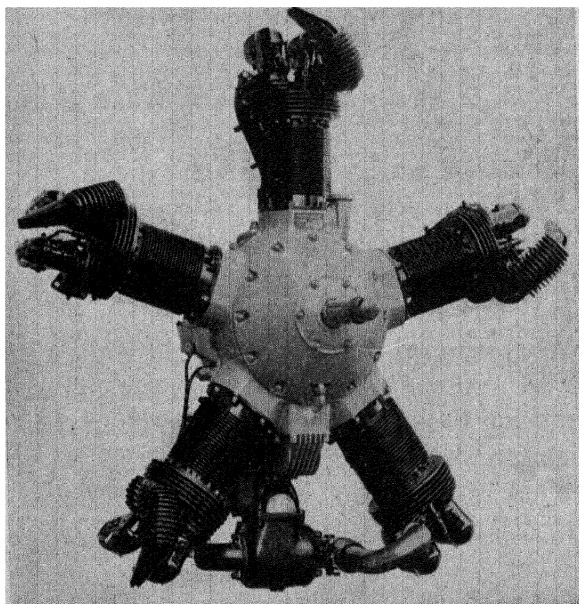

Fig. 315.—Kinner K-5, 5 cylinder, air-cooled, radial aircraft engine.
73. Represent the results from Example 72 graphically, using any appropriate type of graph. The Kinner K-5 is shown in Fig. 315.